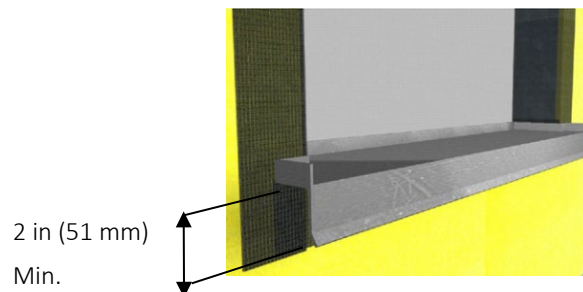

Fig. 7
- a. Install a watertight pan flashing at all sill locations - Figure 7.
- c. The flashing shall extend a minimum of 2 1/2 in (64 mm) down over the face of the Outsulation X System - Figure 7.